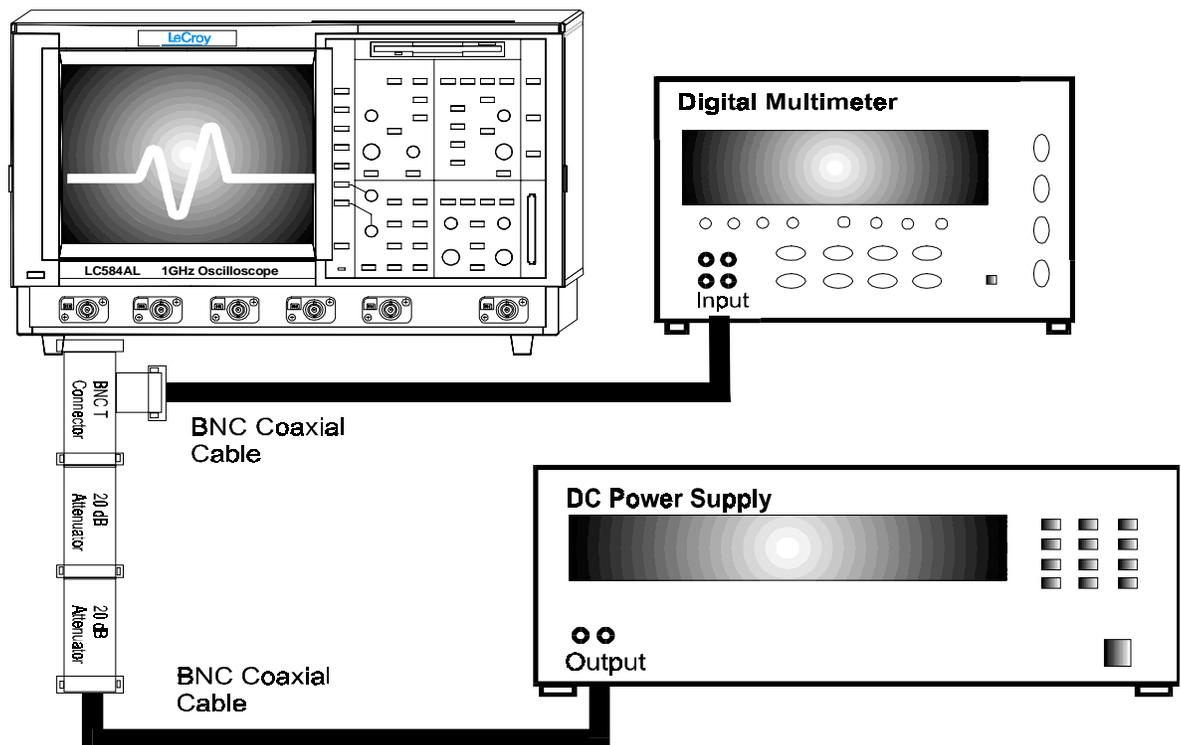

Figure 5-1 : DC 50Ω Accuracy Equipment Setup for 2, 5, 10 and 20 mV/div
- For the low sensitivities: 2 mV, 5 mV, 10 mV and 20 mV/div., connect the test equipment as shown in Figure 5-1.
- Connect the test equipment as shown in either Figure 5-1 or 5-2 or 5-3.